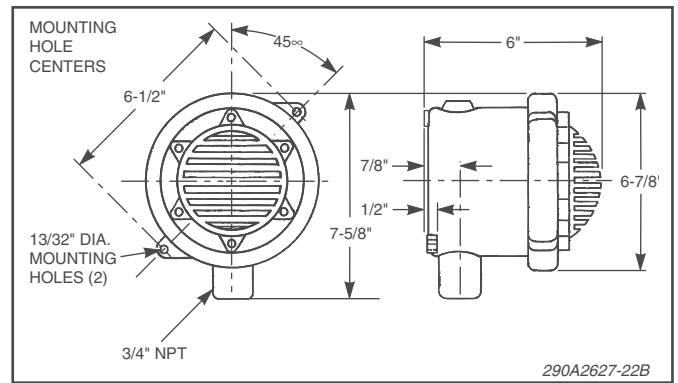

Figure 1. Model FHEX Mounting Dimensions.
2. Mounting Arrangements (see Figure 1).
This device can be mounted on any relatively flat surface. Conduit connection can be made to 3/4" threaded opening in the housing attached to this device (see Figure 1).
- b. Using the horn as a template, scribe drill position marks on the mounting surface. See Figure 1 for mounting hole locations and dimensions.